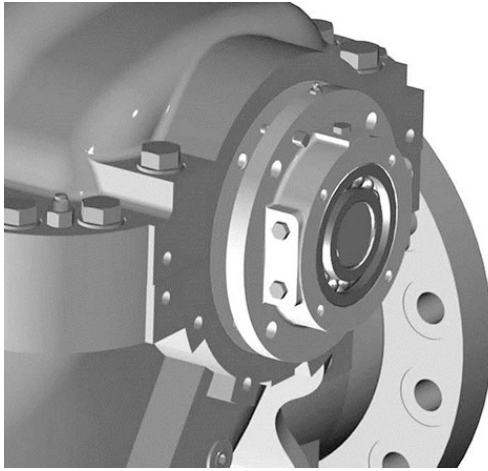

Figure 24
1. Identify the parts of the coupling guard. See Fig. 24. The following instructions will reference items listed in Figure 24.